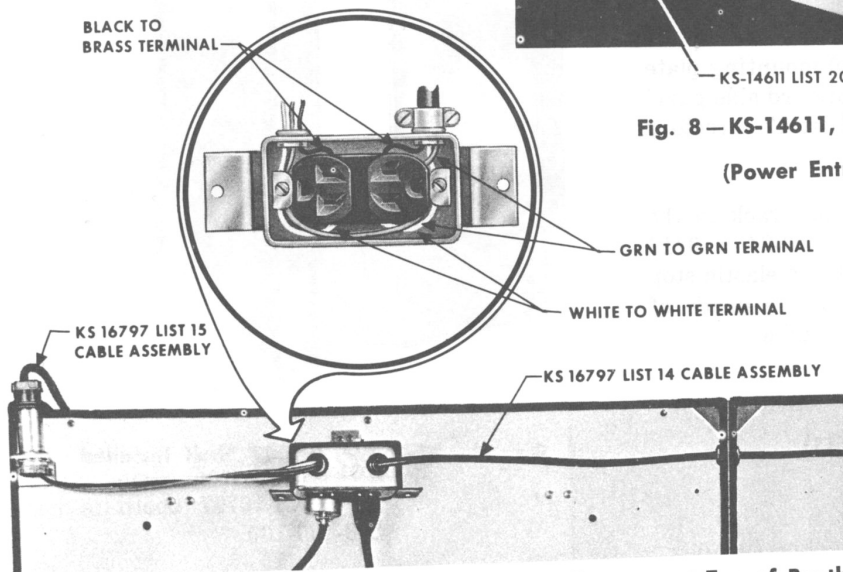

Fig. 7 — KS-16797, List 15 Cable Assembly (Power Entrance at Top of Booth)
6.04 *Indoor installation*, Fig. 7, power is brought into an indoor booth from the top rear of the booth with a KS-16797, List 15 cable assembly.